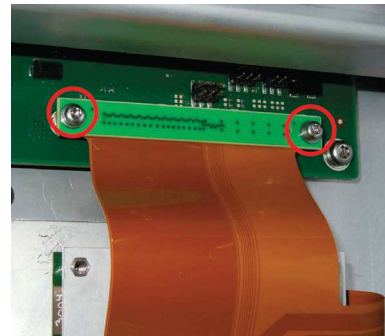

Fig. 7.11 Connector
- 4 Remove the two screws holding the connector for the interconnection PCB to the motherboard - use Torx T10 (tools 1/7). Shown in Fig. 7.11 \(p. 120\).